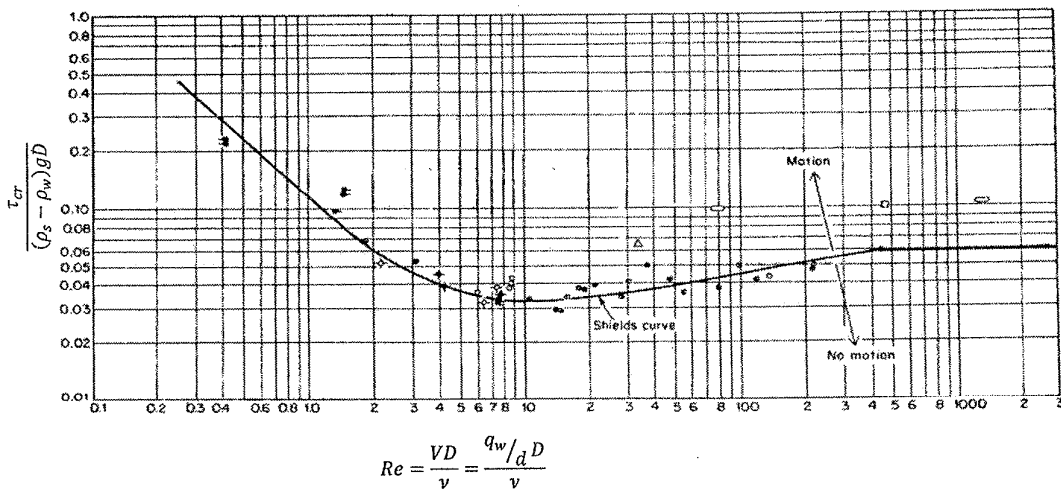

Figure 4. Shields' Diagram
A set of piers needs to be designed for a bridge across a river with a gravel bed. To design the substructure, it is necessary to estimate the erosion potential at the riverbed. The average discharge (q_w) is $0.8 \text{ m}^3/\text{s}$ per metre width of the river. The riverbed slope (S) is $1/1000$ and the water depth (d) is 1.0 m at average discharge. If the average diameter of riverbed sediments (D) is 0.003 m , estimate the annual erosion volume per metre width of the river. Assume there is no sediment supply from upstream at this location. Shields' Diagram is given in **Fig. 4**. Use Shields' formula,